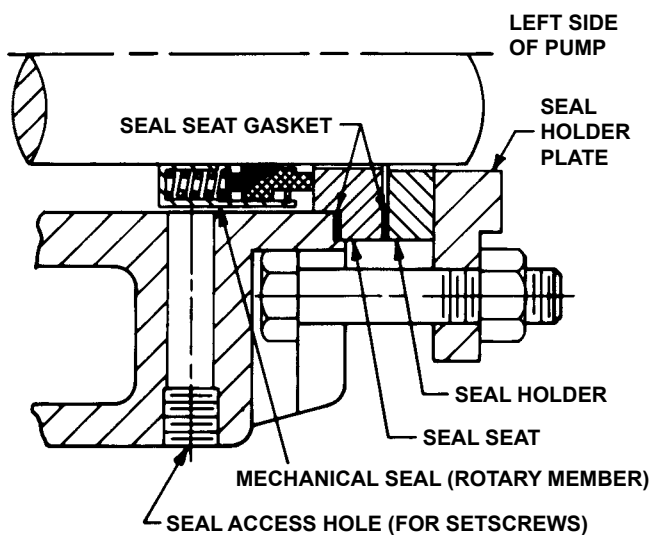

FIGURE 8 - STANDARD MECHANICAL SEAL
4. **STANDARD MECHANICAL SEAL** (Type 9, PTFE is standard). If the mechanical seal fails it can be replaced with a new one. There are two basic parts to the mechanical seal, the rotary member and the stationary seat. See Figure 8. To remove the mechanical seal loosen the setscrews around the outside of the mechanical seal which lock it to the shaft. Access to the seal setscrews is through the seal access hole located on the left hand side of the pump mounting bracket (viewed from the shaft end). See Figure 8. Rotate the rotor shaft so all setscrews come into view (three on Q, QS & M, four on LS). Remove the nuts holding the seal holder plate. Remove the seal holder and plate.
5. **STANDARD MECHANICAL SEAL** (PTFE - **see Figure 8**.) The seal is simple to install and good performance will result if care is taken during installation.
Move the rotary member so the setscrews are directly below the seal access holes on the left side of the bracket (viewed from the shaft end) - **see Figure 8**. Tighten all setscrews securely to the shaft. Flush the sealing faces of both the rotary member and seal seat with oil and install the seal seat and a seat gasket over the end of the shaft against the machined bracket face. Assemble the other seal seat gasket, seal holder, seal holder plate, capscrews and nuts and tighten securely. Remove the tapered installation sleeve.